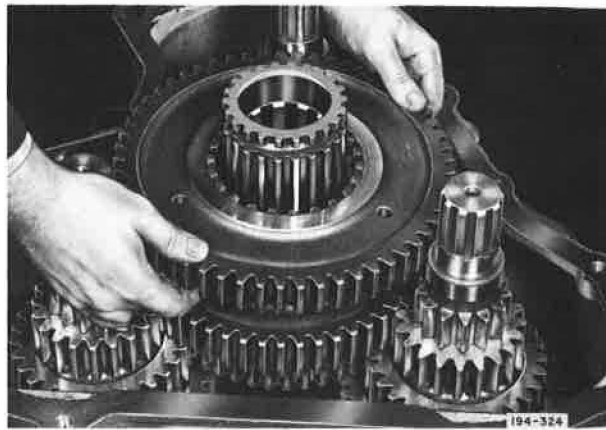

Figure 5-193. Installing First Speed Gear
6. Install first speed gear (clutch teeth to rear) with thrust washer and engage with countershaft first speed gears. See Figure 5-193.